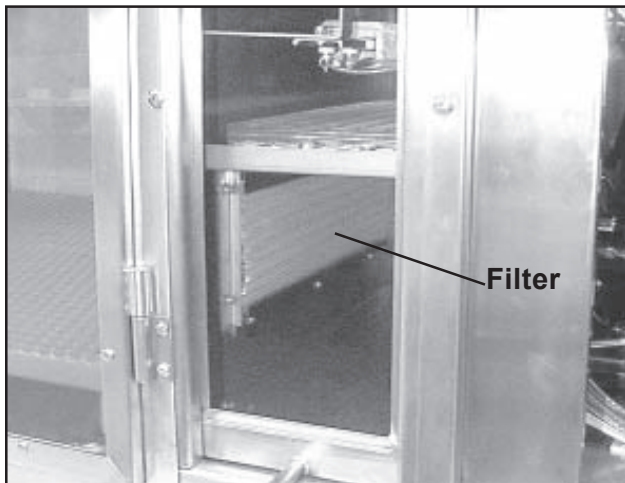

Figure 153. Filter/Fans Compartment Filter
2. Bend the filter until the top or bottom clears the top or bottom mounting bracket (Figure 153).